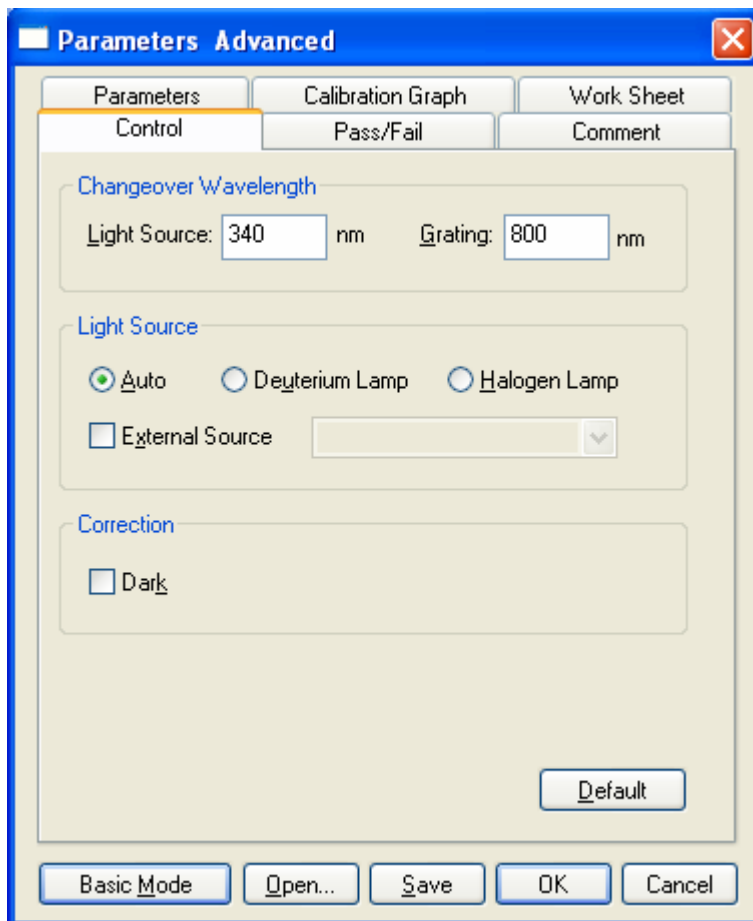

Figure 5.14 [Parameters Advanced] Dialog, [Control] tab
(4) Click on the [Control] tab (see Fig. 5.14).